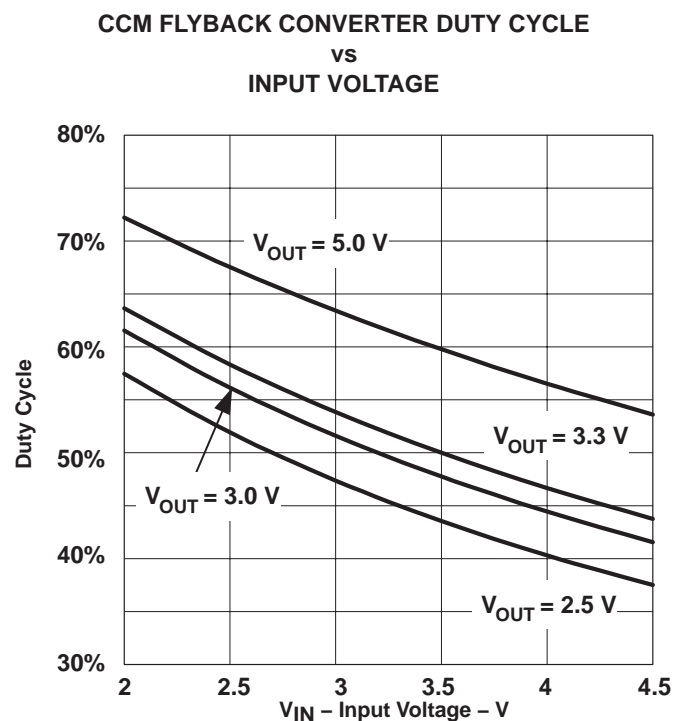

Figure 10
For the flyback topology, using a coupled inductor with a 1:1 turns ratio, the duty cycle is defined by equation (11). This is shown graphically for a number of common output voltages in Figure 10.